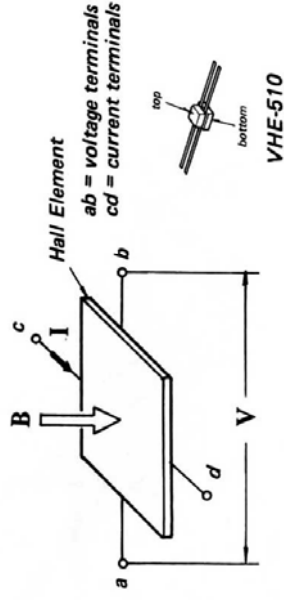

Fig. 1-1.
- * The Hall Effect: When a current (I) flows through a substance, and a magnetic field (B) is applied at right angles to the direction of current flow, a potential difference (V) will be generated in a direction at right angles to both the current and magnetic field. (See Fig. 1-1.)